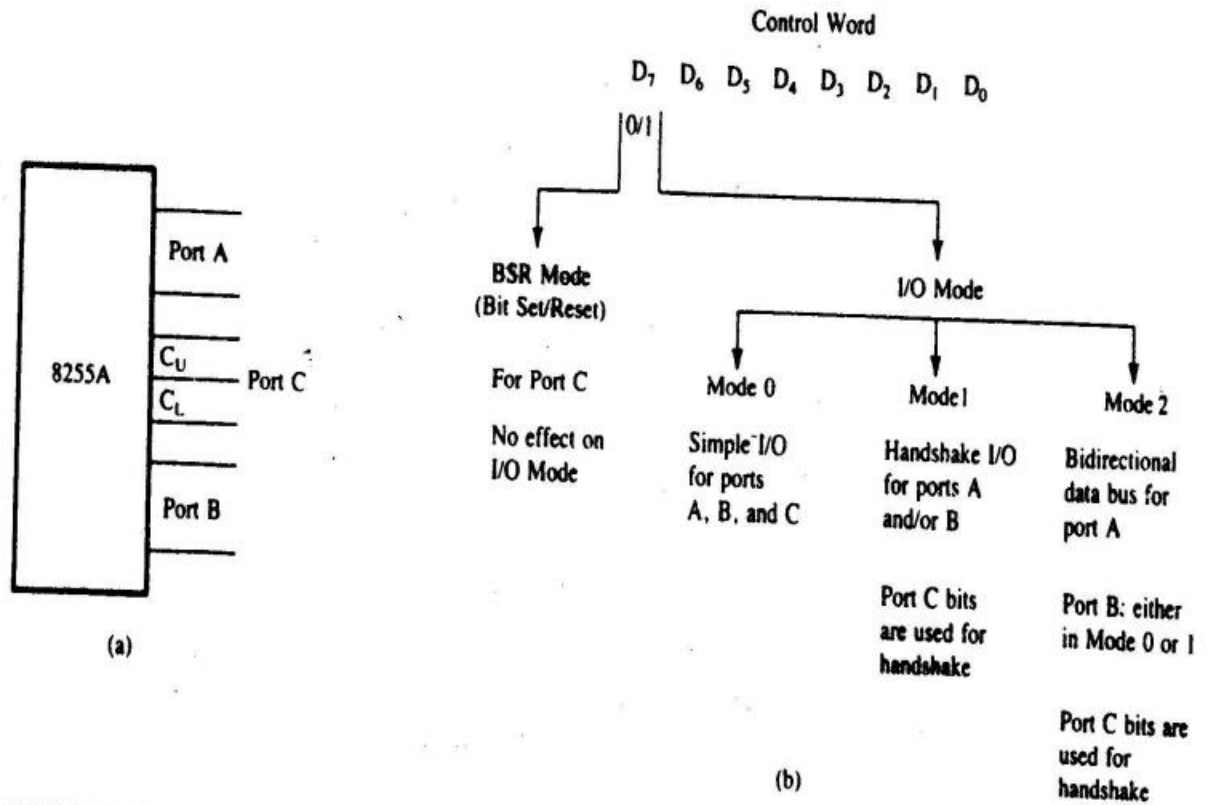

FIGURE 15.1
Ans: The 8255A has 24 I/O pins that can be grouped primarily in two 8-bit parallel ports: A and B, with the remaining 8-bits as port C. The eight bits of port C can be used as individual bits or grouped in two 4-bit ports: CUPPER (CU) and CLOWER (CL), as in Figure 15.1(a). The functions of these ports are defined by writing control word in the control register.
Figure 15.1(b) shows all the functions of the 8255A, classified according to two modes: the Bit Set/Reset (BSR) mode and the I/O mode. The BSR mode is used to set or reset the bits in port C. The I/O mode is further divided into three modes: Mode 0, Mode 1, and Mode 2.